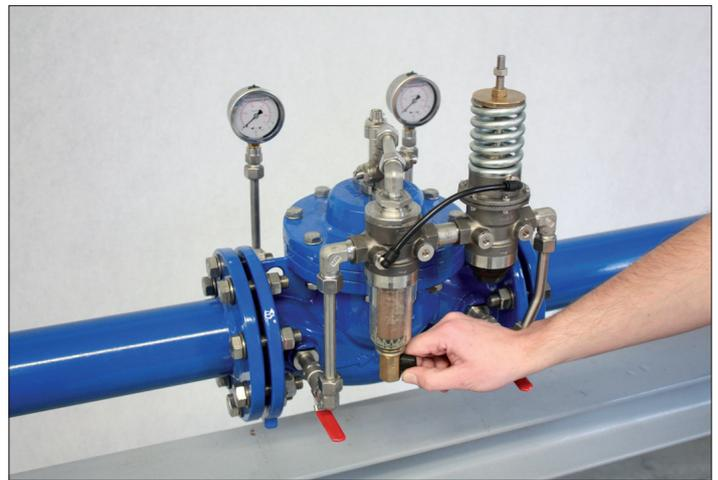

Figure 19: Opening the stop cock
7. The filter integrated in the control circuit must be purged. For purging, open the stop cock at the filter and leave it open until all dirt particles and any trapped air have been removed (see Figure 19). After purging do not forget to close stop cock